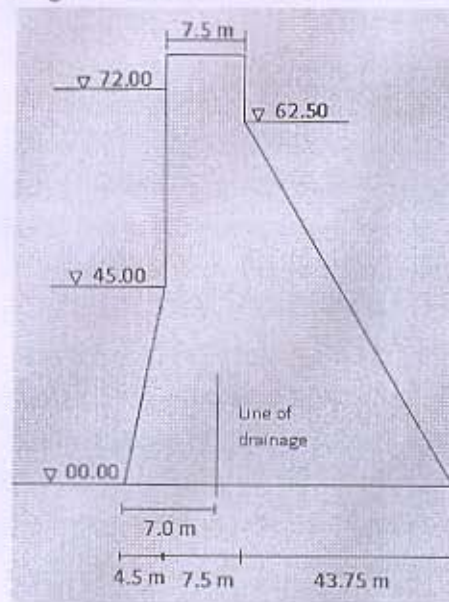

Figure 2
- (b) Check the stability of gravity dam section as shown in **Figure 2** against overturning only for reservoir full conditions. Neglect seismic forces. Take specific weight of concrete = 2.4 t/m^3 , unit weight of water = 1 t/m^3 . [05]